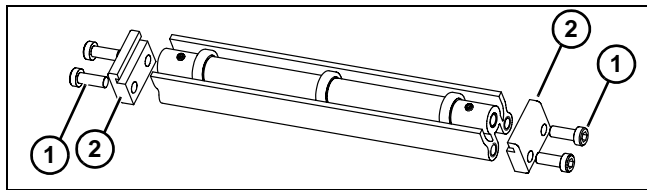

Figure 16
1. Locate return rollers. Exploded view shown in Figure 16.
2. Remove screws (Figure 16, item 1) and clips (Figure 16, item 2) from roller assembly.